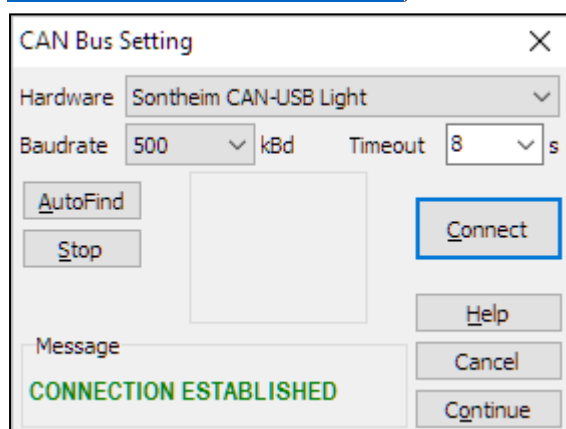

Figure 14. CAN Bus Setting dialog.
If this problem has been overcome and the connection with Homer still fails, a dialog window titled **CAN Bus Setting** shows up (Figure 14), displaying the error message **COMMUNICATION FAIL**. The cause may be that Homer is busy with lengthy measurement and responds with a delay longer than the set timeout (in this case, repeated clicking the **Connect** button may help), or there is CAN baudrate discrepancy. This dialog window enables to either set CAN baudrate on the PC side manually or detect it automatically. Be sure the CAN cable is properly connected and terminated by a 120-ohm resistor at both end devices (see Electrical Installation – CAN Bus).
- From **Hardware** drop-down list (Figure 14), select the CAN Bus interface your PC is equipped with.